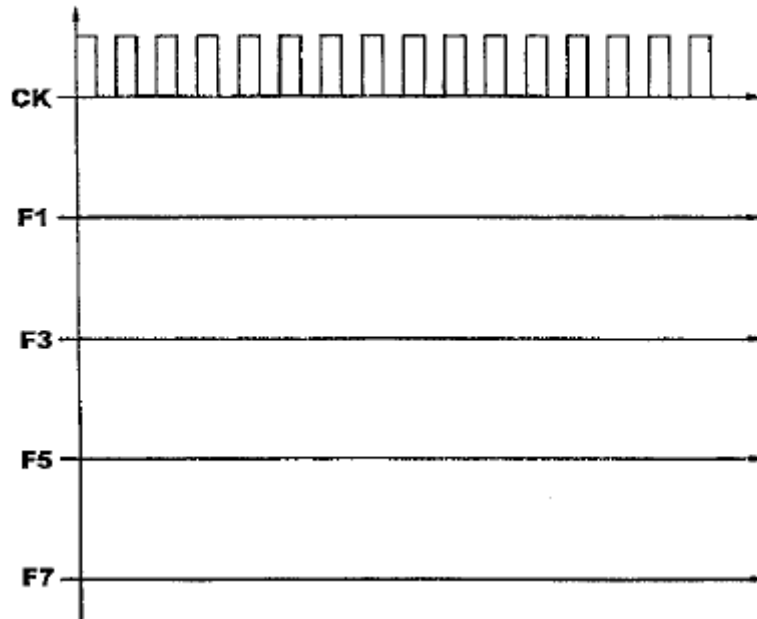

Figure 2.4
- Connect A1 and A2 to SW0 and SW1 respectively, and set them to HIGH. Connect B1(CK) to the OUT of Clock Generator, and enter the clock from 10kHz to 100kHz. Connect B2 to SW2, and set it to HIGH. Using the 8-channel digital multiplexer on the unit panel, measure the waveforms of CK, F1, F3, F5 and F7 simultaneously and sketch the output waveforms in **Figure 2.4** for analysing and discussion.